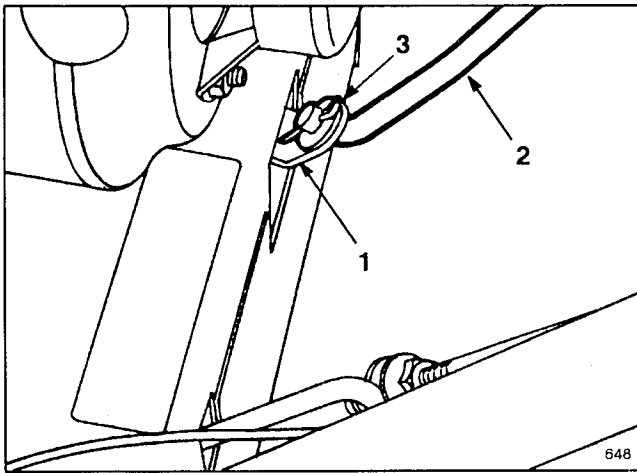
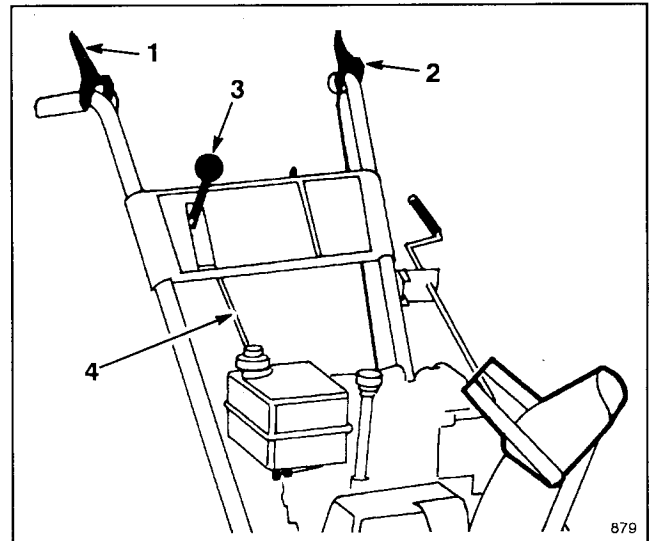

Figure 4
Figure 6
1. Pull speed selector arm (Fig. 4) to the fully "out" position and move speed selector (Fig. 6) on control panel to the R (REVERSE) position to ease assembly.
2. Install speed selector rod into selector arm, add one flat washer on the selector rod and secure with cotter pin (Fig. 4).
4. Adjust the two flange nuts up or down on the traction control rod until the distance between the top of the handgrip and the bottom of the traction control lever (Figs. 6 and 7) is approximately $4\frac{3}{8}$ inches. **This is a preliminary setting only.** Tighten the two flange nuts finger tight.
5. Move speed selector (Fig. 6) into third gear.
3. Check the distance between the top of the handgrip and the bottom of the auger control lever (Fig. 6 & 9). Distance should be approximately four inches. **This is a preliminary setting only.**